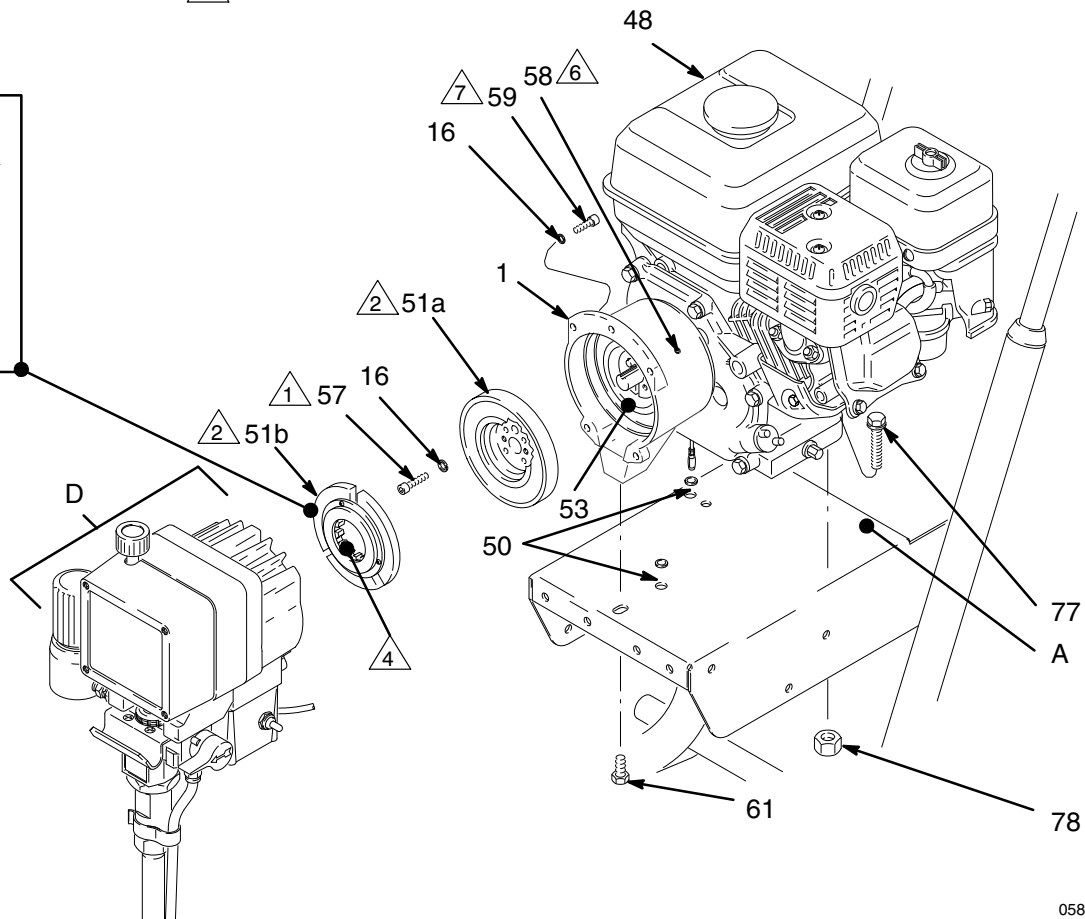

Fig. 23
6. Be sure the face of the **rotor (51a)** and the clamp (55) are free of all burrs. Install the rotor, lock-washers (16) and capscrews (57). Torque the capscrews to 7 ft-lb (9.5 N.m). See Fig. 23.
7. After installing the rotor (51a) the air gap must be adjusted between the rotor and the field (53). Use shims provided with the clutch repair kit. Push the shims between the rotor and the field. Tighten the setscrews (58) oppositely and evenly. Drag on all four shims must be even. Pull the shims out. Pull the engine recoil rope to assure that the engine turns freely, and there is no contact between the rotor and the field. If there is contact, loosen the setscrews and reposition the field.
8. Clean the face of the **armature (51b)**. With the flat side of the armature facing the rotor (51a), slide the armature onto the hub (2h) in the drive/pinion assembly (D) just until the chamfered end of the hub (2h) protrudes through the armature. See Detail B, Fig. 23. There will be significant resistance. Attach the cardboard spacer, supplied with the clutch kit, to the face of the armature. Engage the tabs on the spacer with the slots in the armature or bend tabs over outside diameter of armature.
9. Assemble the **drive assembly (D)** to the clutch housing (1), using the capscrews (59) and lock-washers (16). See Fig. 23.